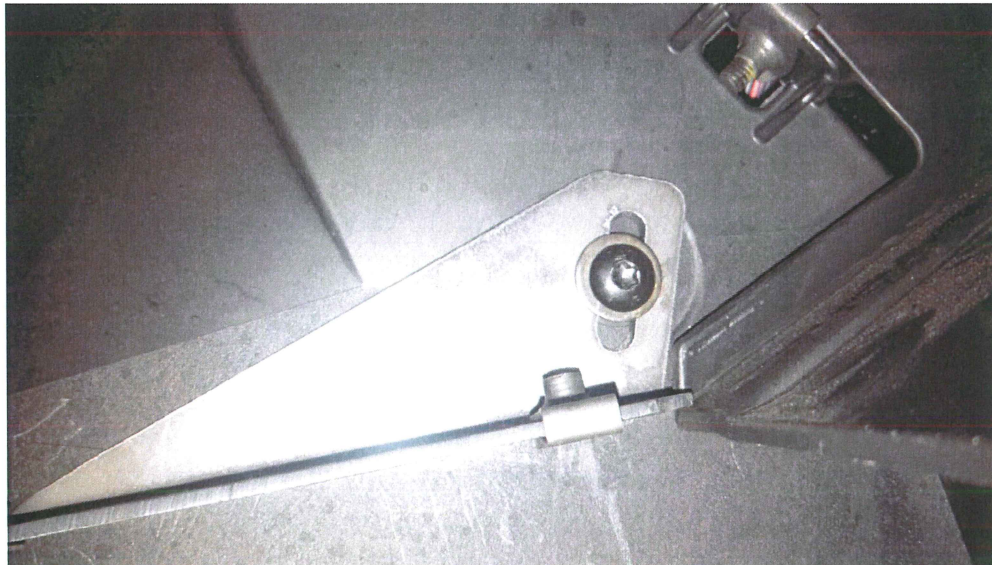

Figure 3
3. Remove the bolt located just behind the dash lower panel on the center panels as shown in Figure 3.
5. Fitting the large ¼" Fender Washer, install the Right Heater Support Bracket as shown in Figure 3. *Do not tighten bolt fully – only tighten the bolt so the bracket can still be moved.*